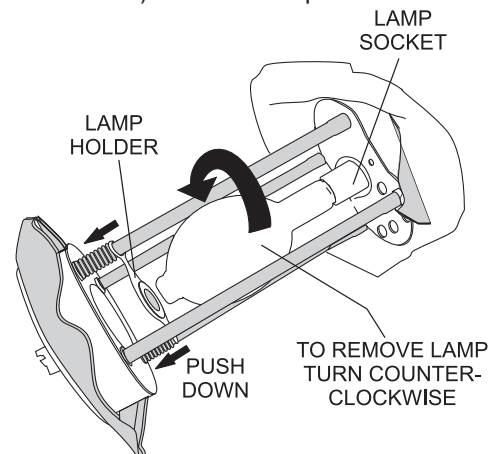

Figure 25. Removing the Lamp
3. Push down and hold the lamp holder (spring loaded) away from the lamp (Figure 25). Unscrew the lamp (turn counterclockwise) from the lamp socket.